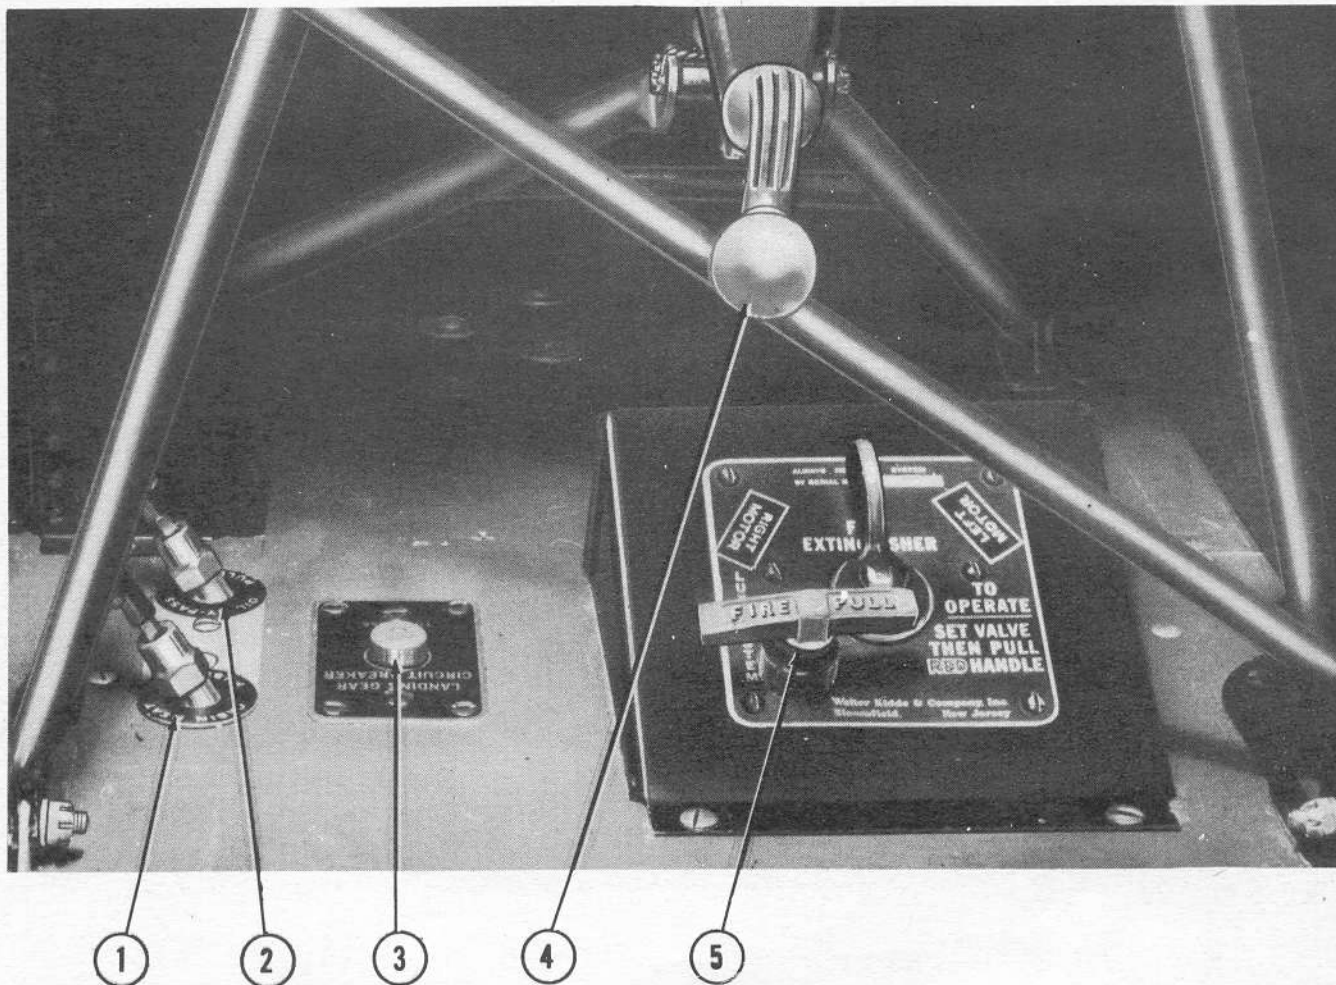

Figure 35—Controls Under Pilot's Seat
d. ENGINE FIRE EXTINGUISHER CONTROLS.—On early model AT-11 airplanes, engine fire extinguisher controls are mounted near pilots' compartment floor in base of control pedestal. On later-model AT-11's and SNB-1's, the controls are located under pilot's seat. (See figure 35.) In case of fire on one engine, **TURN SELECTOR VALVE TO DESIRED ENGINE AND PULL RELEASE HANDLE.**